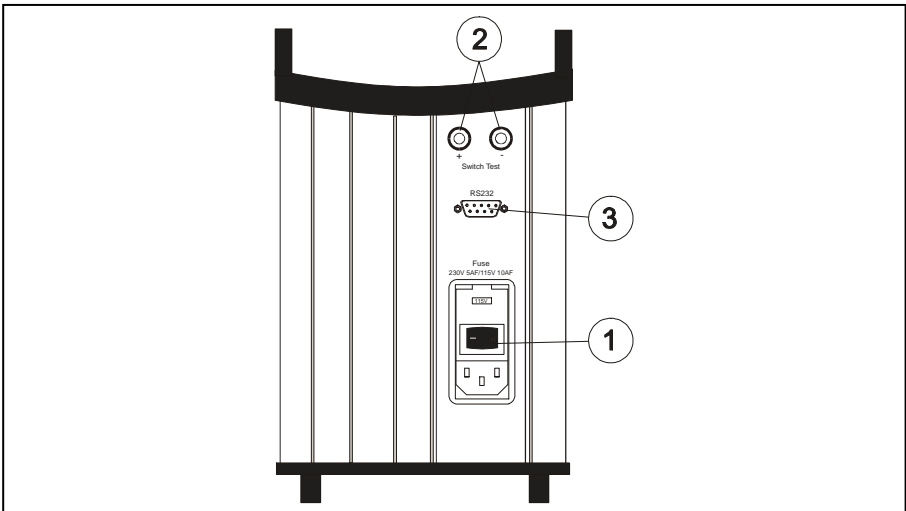

Fig. 6
①	Power control switch with connection for cable and on/off switch. Also contains the main fuse. See section 7.0 for information on how to change the fuses.
②	Connection for thermostat test.
- ③ Connection for RS232 cable.
Switch the calibrator on using the power control switch (pos. 1 in Fig. 6).